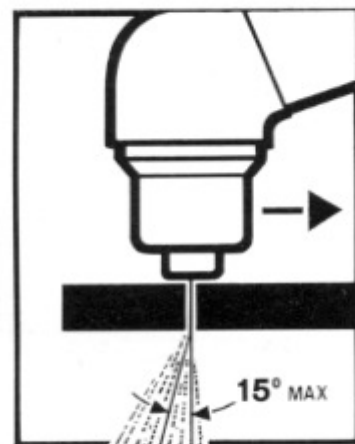
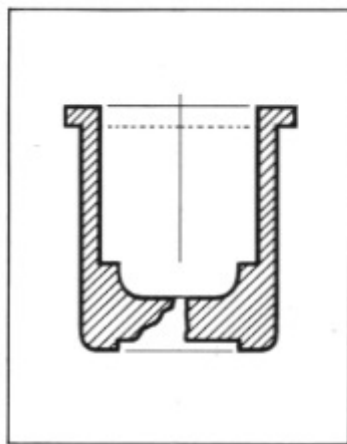
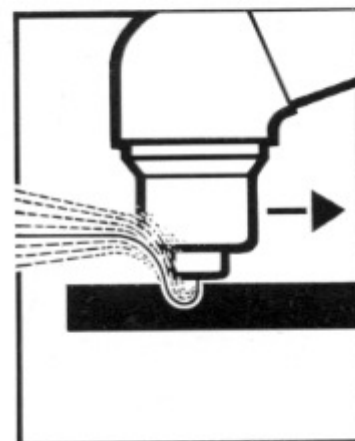

Fig. 7
Fig. 8
Fig. 9
- high speed. Always ensure that arc fully goes through the workpiece to be cut and that its inclination is never higher than $10 + 15^\circ$ (see fig. 7). This will prevent misuse of nozzle (see fig. 8) as well as burnings to nozzle holder (see fig. 9).